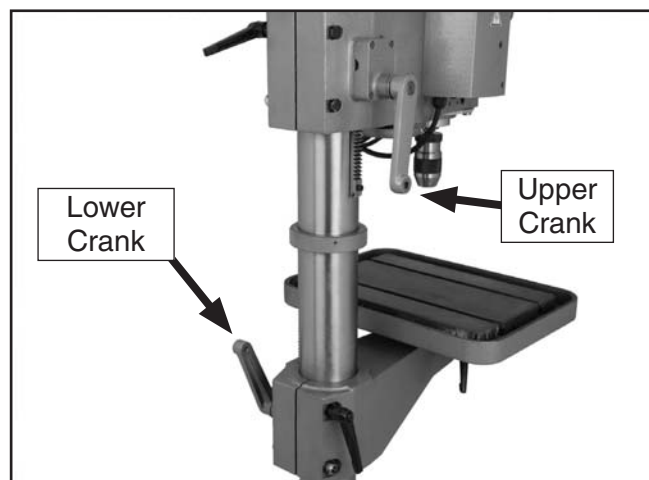

Figure 9. Crank handle locations.
1. Screw a crank handle into the upper crank and lower crank, as shown in **Figure 9**.